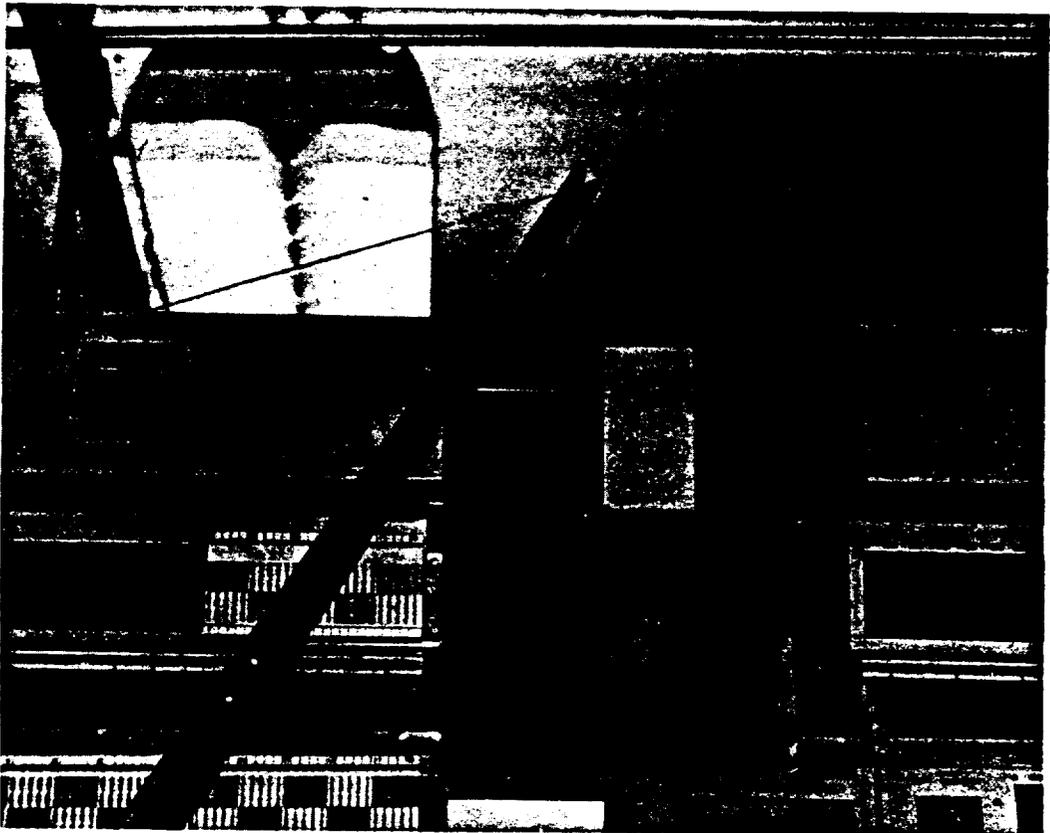

Figure 32. Placing Jumper Wire in Trough Using Jumper Running Tool
4.08 The KS-21415, L3 jumper running tool (Comcode 401445077, Figure 32) is used to place wire jumpers in frame shelves and express troughs in telephone central offices.